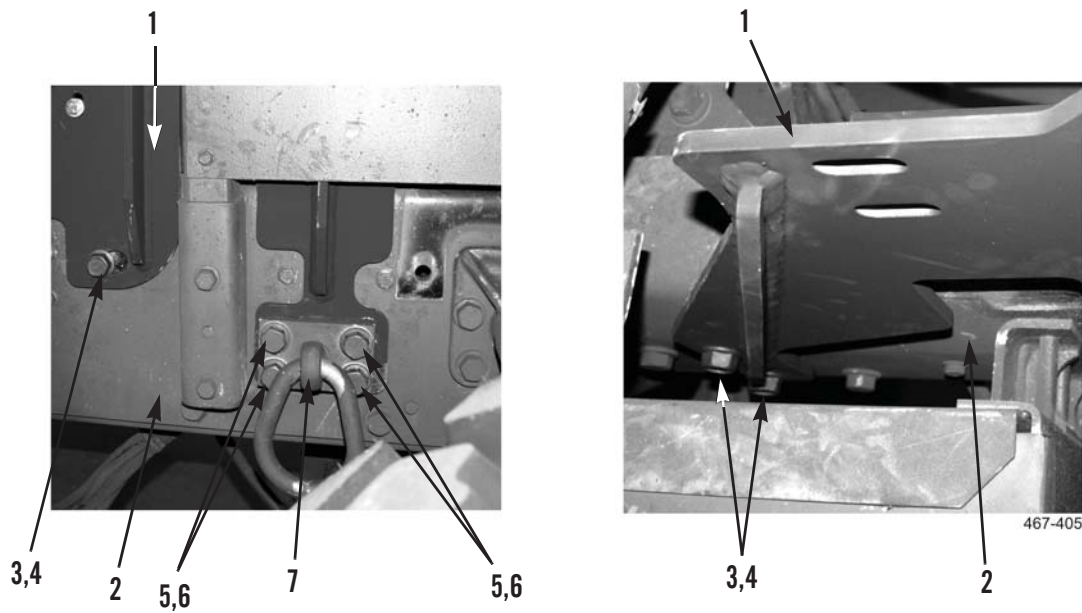

Figure 3. HEMTT Right-Side Stowage Support Bracket.
6. Install right-side stowage assembly support bracket (Figure 3, Item 1), three bolts (Figure 3, Item 3) and nuts (Figure 3, Item 4) on frame (Figure 3, Item 2).
7. Install tiedown (Figure 3, Item 7), four bolts (Figure 3, Item 5) and nuts (Figure 3, Item 6) on frame (Figure 3, Item 2).